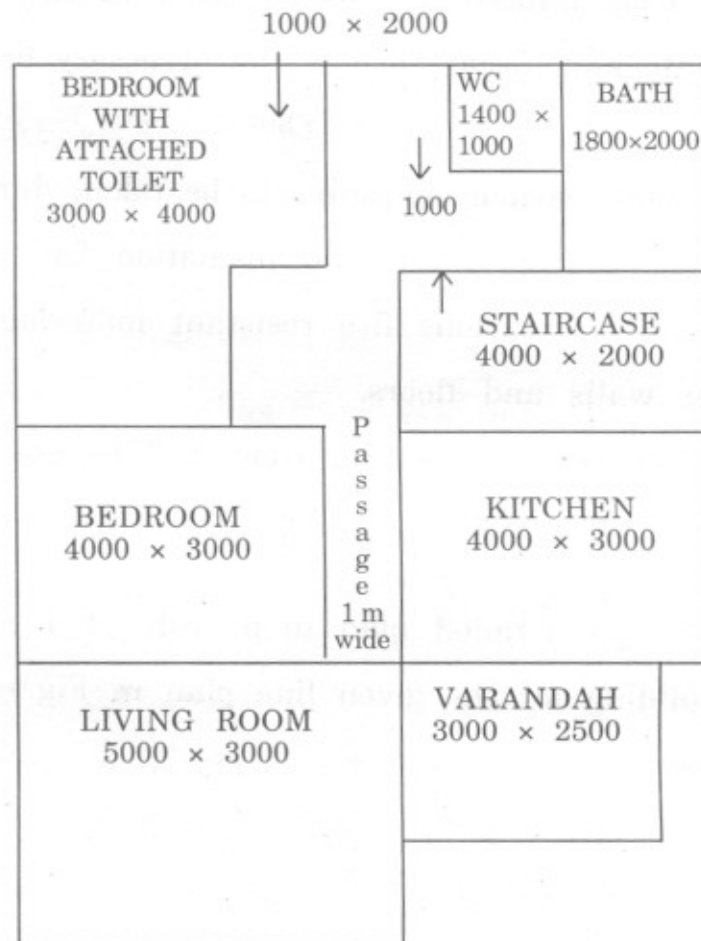

Fig. 1. : **Line Plan**
7. (a) Draw a detailed plan to a scale of 1 : 50 of a residential building for the given line plan in Fig. 1. Use the following data : [12]